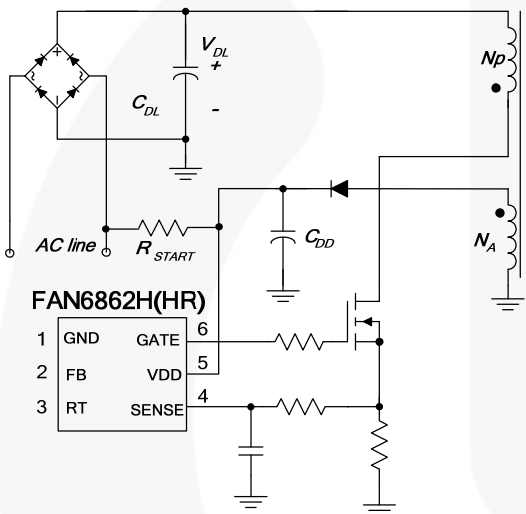

Figure 22. Startup Circuit
Figure 22 shows a typical startup circuit and transformer auxiliary winding for a FAN6862H(HR) application. Before FAN6862H(HR) begins switching, it consumes only startup current (typically 8 $\mu$ A) and the current supplied through the startup resistor charges the  $V_{DD}$  capacitor ( $C_{DD}$ ). When  $V_{DD}$  reaches a turn-on voltage of 16V ( $V_{DD-ON}$ ), switching begins and the current consumed increases to 2mA. Then, the power required is supplied from the transformer auxiliary winding. The large hysteresis of  $V_{DD}$  (8.5V) provides more holdup time, which allows using a small capacitor for  $V_{DD}$ . The startup resistor is typically connected to the AC line for a fast reset of latch protection.